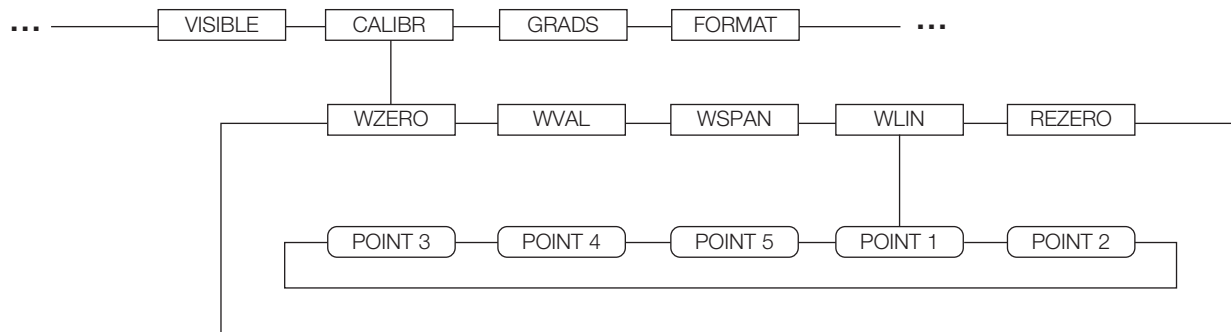
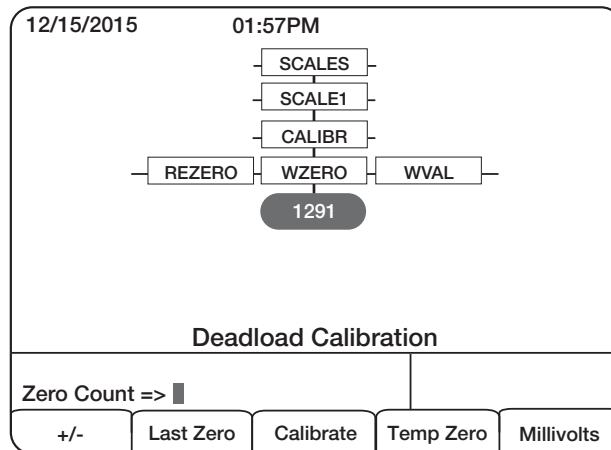

Figure 4-1. Calibration Submenu
Figure 4-2. WZERO Calibration Display
The **CALIBR** submenu (under the **SCALES** menu, see Figure 4-2) is used to calibrate the 920i. The zero, span, and linear calibration point displays provide a set of softkeys used specifically for calibration procedures:
2. With the **SCALES** menu highlighted, press the **down** key, then select the scale to be calibrated. Press **down** again (**GRADS** parameter highlighted), then press **left** to highlight the **CALIBR** submenu (see Figure 4-1). Press **down** to go to zero calibration (**WZERO**). See Figure 4-2 on page 58.